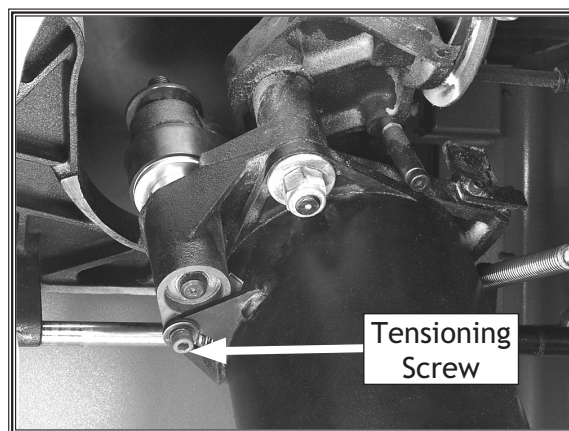

Figure 38. Flat belt tensioning screw.
5. Lower the arbor assembly all the way down, loosen the tensioning screw (**Figure 38**), then rotate the motor to release the tension on the flat belt.